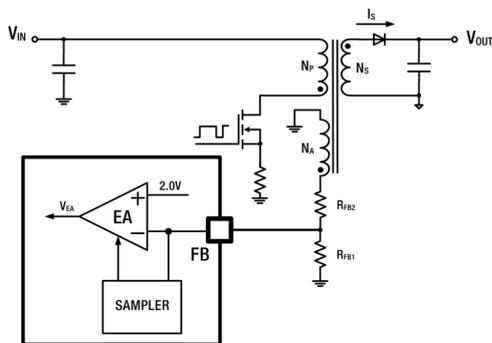
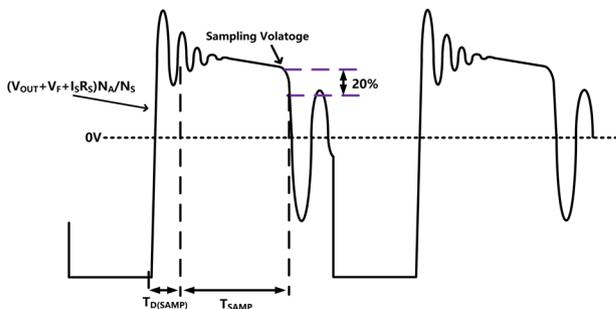

Fig. 21
Fig. 22
RVPW014 monitors the output voltage of the switching power supply via the auxiliary winding of the transformer. A sampling resistor connected to the auxiliary winding feeds the signal to the FB pin. During the transformer's demagnetization phase, the sampled voltage serves as the negative input to the error amplifier (EA). This voltage is differentially amplified against the internal reference voltage $V_{REF(REG)} = 2V$ to generate the duty cycle control voltage V_{EA} , which in turn modulates the converter's duty cycle, as illustrated in Figure 21. The corresponding auxiliary winding voltage waveform is shown in Figure 22. Once the control loop stabilizes, the sampled voltage at the FB pin equals the EA reference voltage of 2V. Based on this steady-state condition, the output voltage can be calculated as follows: